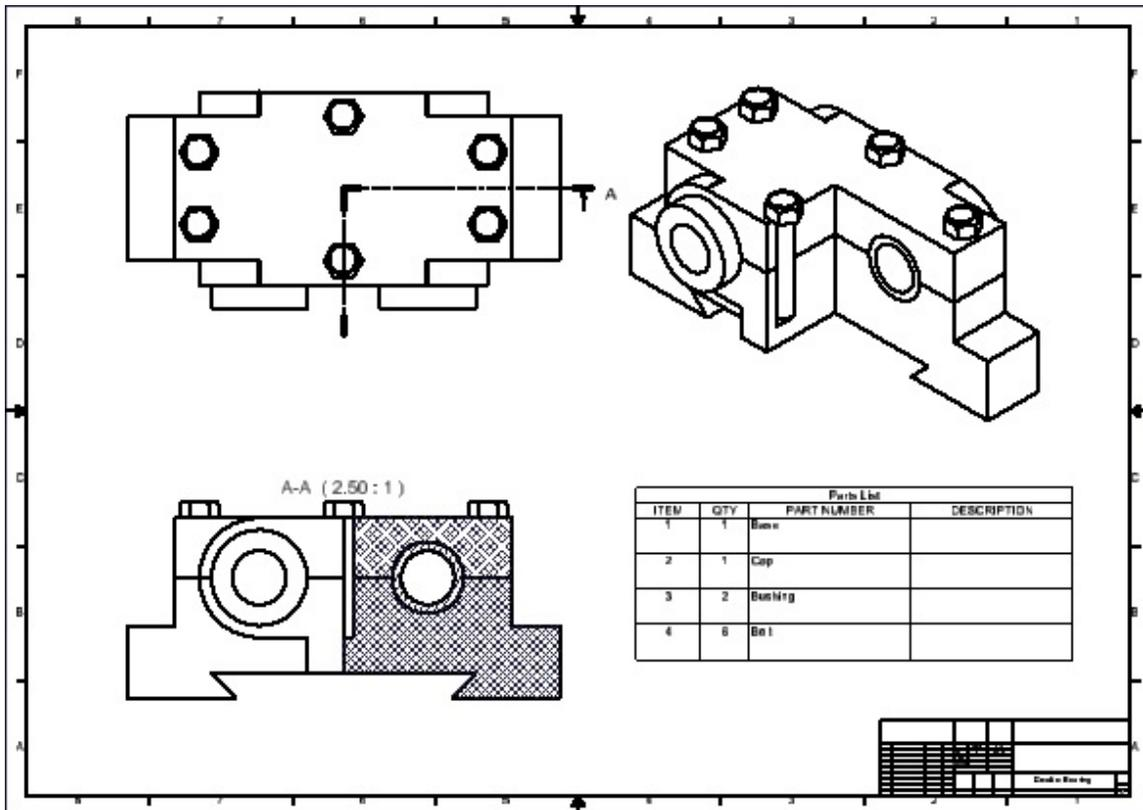

Figure 12-25 Drawing sheet with the default parts list
- Specify the location of the parts list at the lower right corner of the sheet above the title block. The sheet with the default parts list is shown in Figure 12-25.